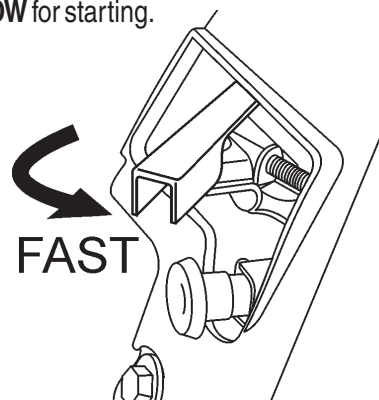

Figure 27. Throttle Lever (Fast Position)
5. Place the **throttle lever** (Figure 27) halfway between **FAST** and **SLOW** for starting.